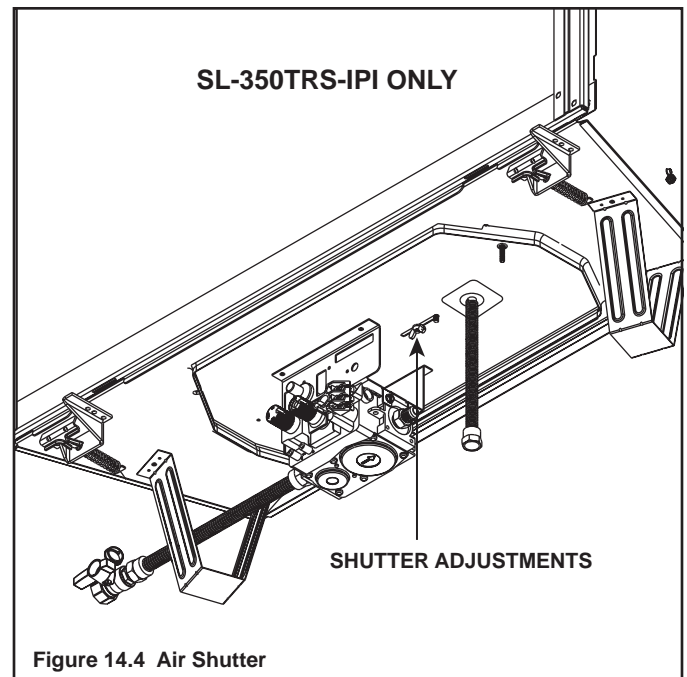

Figure 14.4 Air Shutter
- Some of the small port holes should be covered with ember material. See Figure 14.4 for detail.
By sliding the air shutter to the right, you will be closing the air shutter. To adjust loosen the wing nut (see Figure 14.4). Care should be taken when adjusting the air shutter so as not to cause the appliance to soot. If sooting occurs the air shutter will need to be opened by sliding the air shutter to the left. When finished, tighten wing nut.